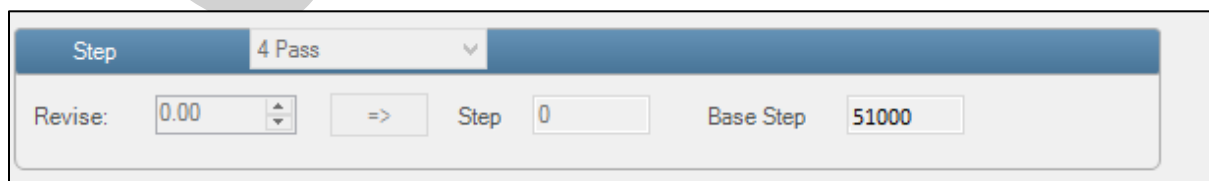

Fig 30: The Step Calibration Parameters
Step 1: Select the desired pass from the list and click on the **Print** button (Refer to Fig 30).
Step 2: Feed the correction value in the **Revise** field (the correction value up to two decimal places) (Refer to Fig 30).
Step 3: Click on the => icon (Refer to Fig 30) on the Step Calibration window. The correction value result will be reflected in the **Step** field (Refer to Fig 30). The same step value will also be displayed in the **Steps** field on the **Quick Access Toolbar**.